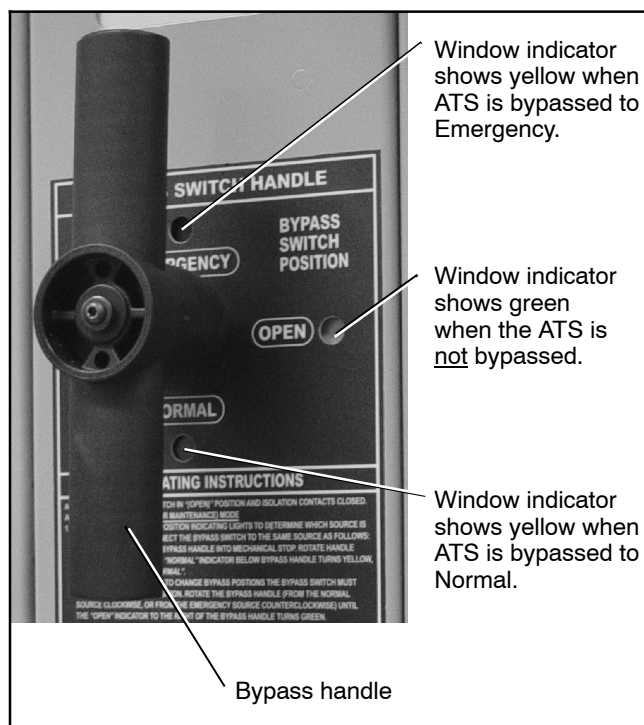

Figure 7-5 Bypass Handle and Three-Position Window Indicators
- The bypass switch handle must be in the OPEN position (green window indicator). See Figure 7-5.